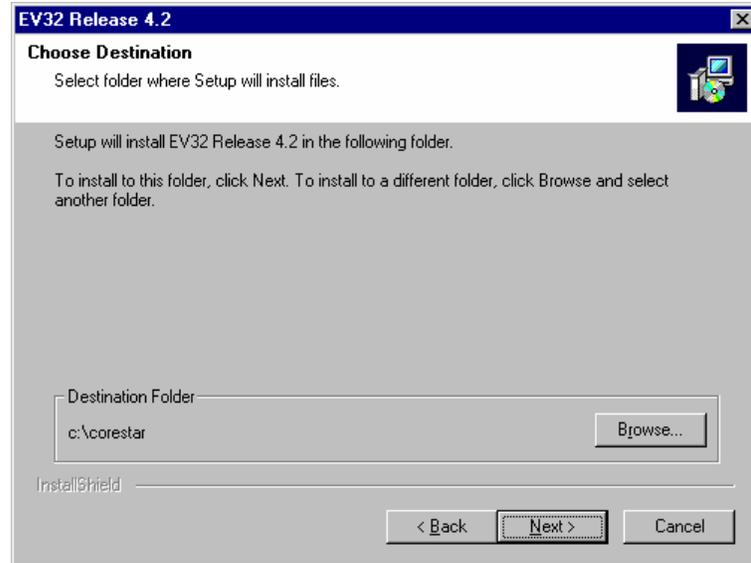

Figure 2-2. Installation Destination Window
- The window shown in Figure 2-2 appears. The installation program defaults to an installation directory of *c:\corestar*. Click the **Browse** button to select a different installation drive and/or directory. If the desired directory doesn't already exist, the installation program will create it. Click the **Next** button to continue.